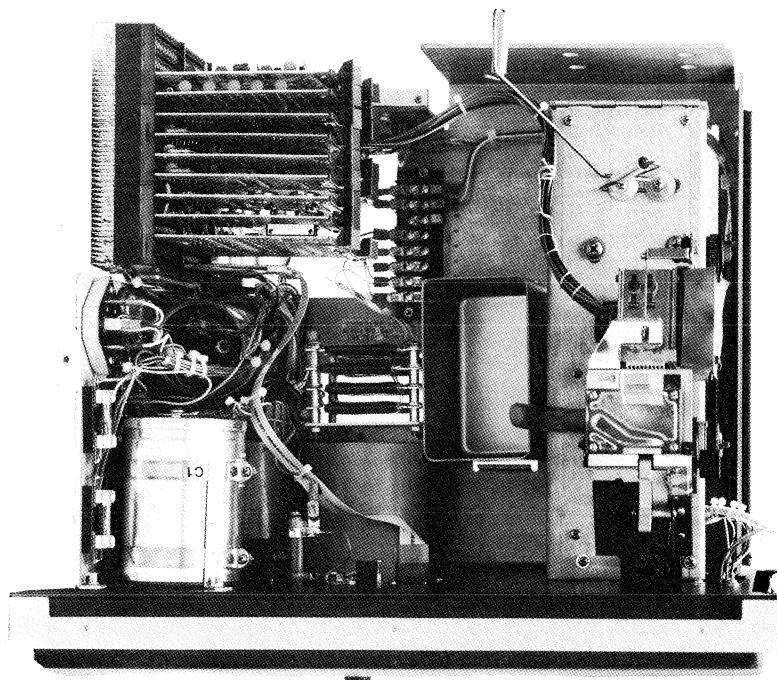

Figure 5-2b Top View
- a. Set the clamp on the adjustable resistor (Figure 5-2b) all the way back from the front of the PC05.
- c. Determine the shortest data pulse, which should be in the range of 2 to 2.5 ms. (A rough adjustment of the G918 threshold (Figure 5-2b) may be required to do this).